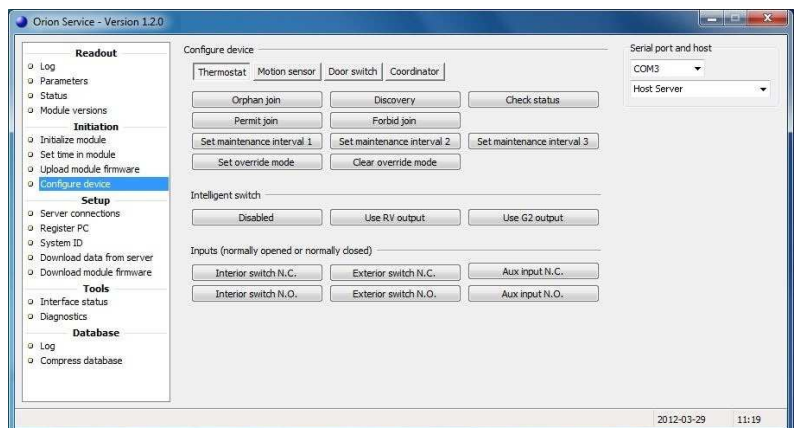

Figure 27
10. Choose the **Thermostat** tab of the **Configure device** section in Orion Service. Click the **Forbid Join** button; see Figure 27. Failure to perform this step will result in problems when setting up the network in nearby rooms.